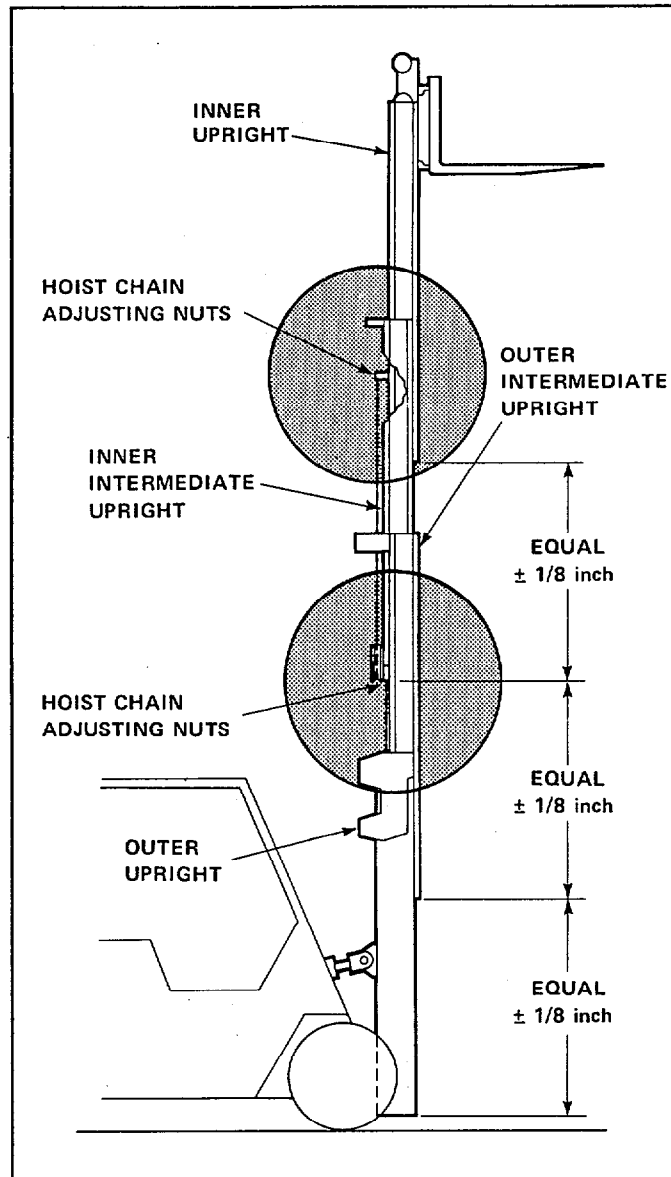

Figure 42. Mast Chain Adjustment
The mast chain should be adjusted so that when the unloaded mast is fully lowered, all upright channels are even with each other at the bottom within 1/8 inch. See Figure 42.
1. To adjust, raise the mast until the mast chain adjusting nut is just above the outer upright. See Figures 42 and 43. Tighten or loosen the adjusting nut to adjust one chain to achieve the equal dimension. Adjust the other mast chain until equal tension is achieved.